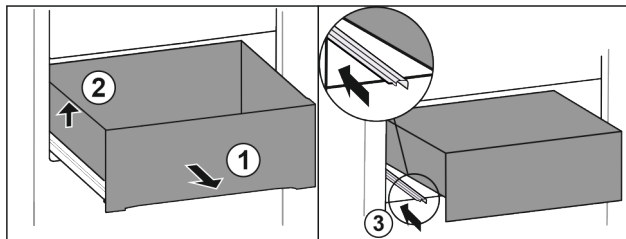

Fig. 21
- Pull out drawer as far as it will go. Fig. 21 (1)
- Lift drawer on the left. Fig. 21 (2)
- Slide in left rail. Fig. 21 (3)